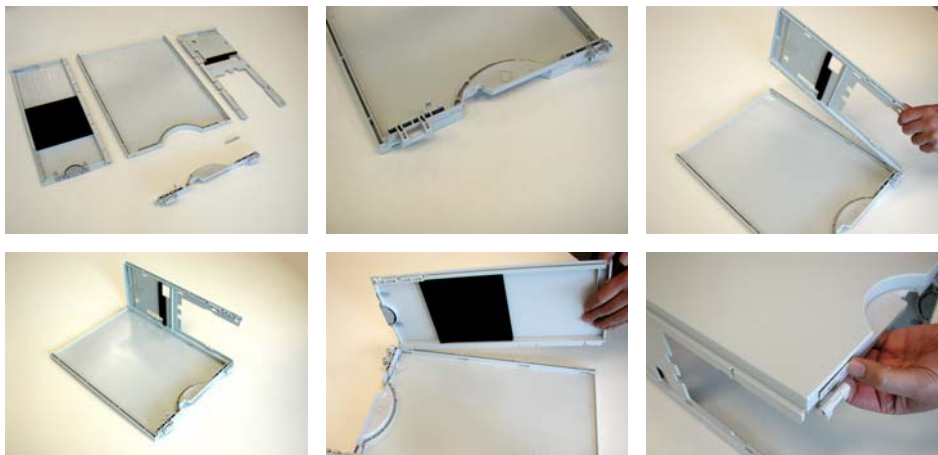

Figure 7 Assembling the new cover
- 7** Assemble the new plastic cover (see Figure 7).